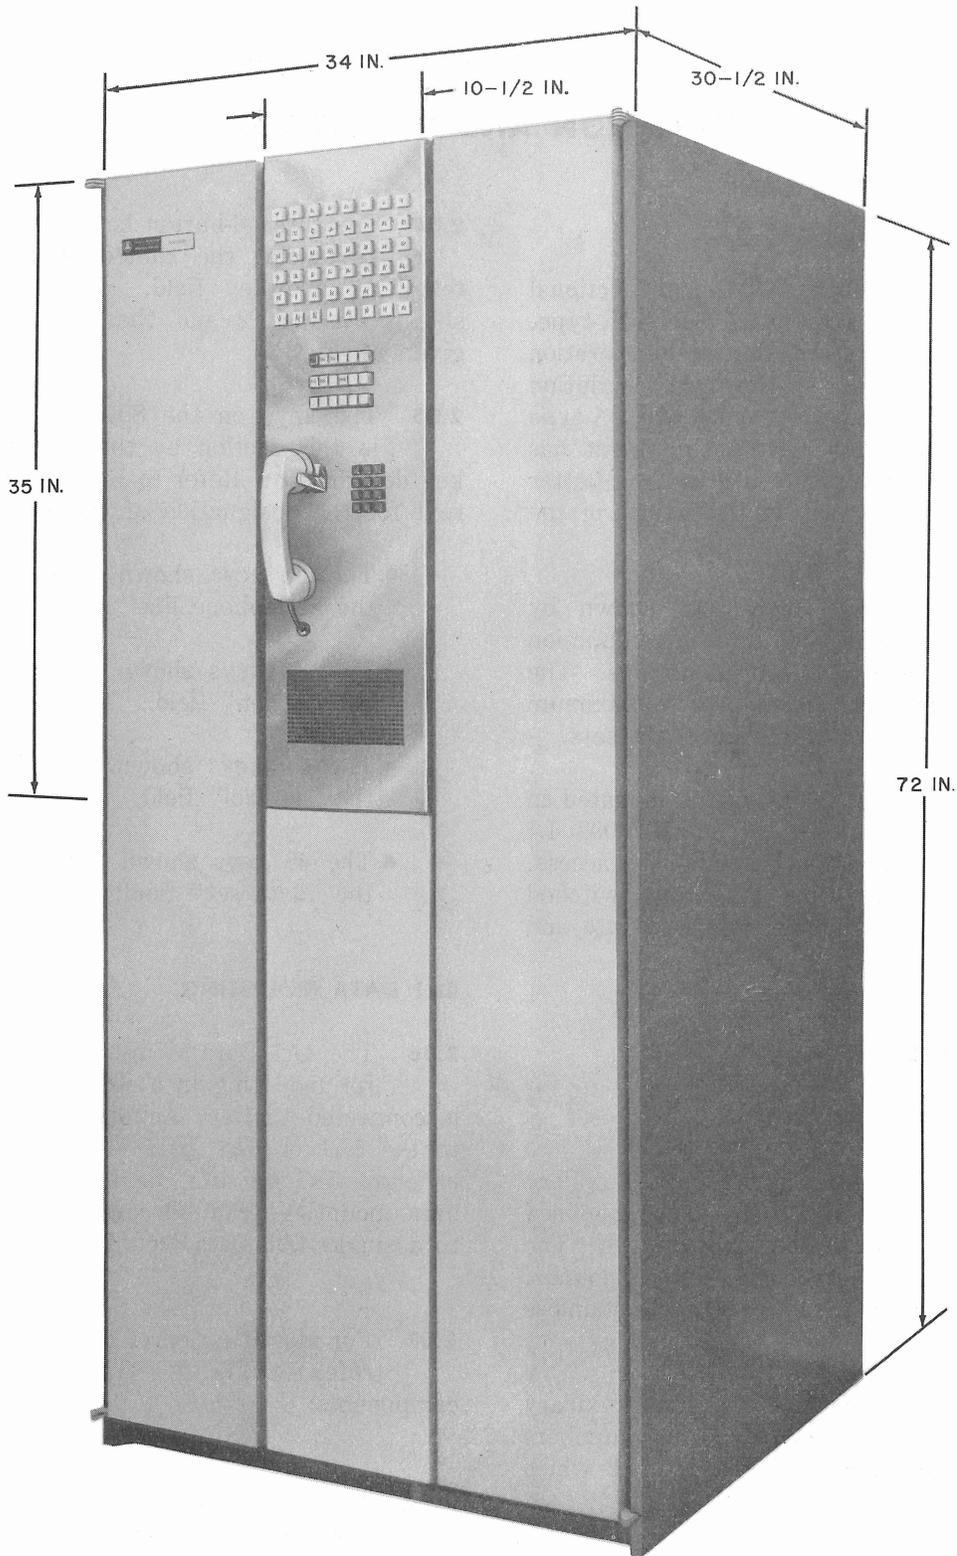

Fig. 1—Data Auxiliary Set 804L-Type Mounted in a KS-20093 Cabinet
1.02 Data Auxiliary Set 804L-type, shown by Fig. 1, is a control panel used in conjunction with the 4A1, 5A1, and 6A1 Data Mountings. The panel is used to provide control over a maximum of 48 switched access or private line data sets.
1.03 Data Auxiliary Set 804L-type is mounted in the center front door of a KS-20093 L1 cabinet (Fig. 1). It allows an attendant to access, make busy, and release from busy any switched data set and place private line data sets into and out of the test mode.
2.01 The physical dimensions of Data Auxiliary Set 804L and the cabinet (KS-20093 L1) used for mounting the 804L are shown by Fig. 1. The data auxiliary set weighs approximately 27 pounds. The panel is provided in shadow-finish stainless steel.